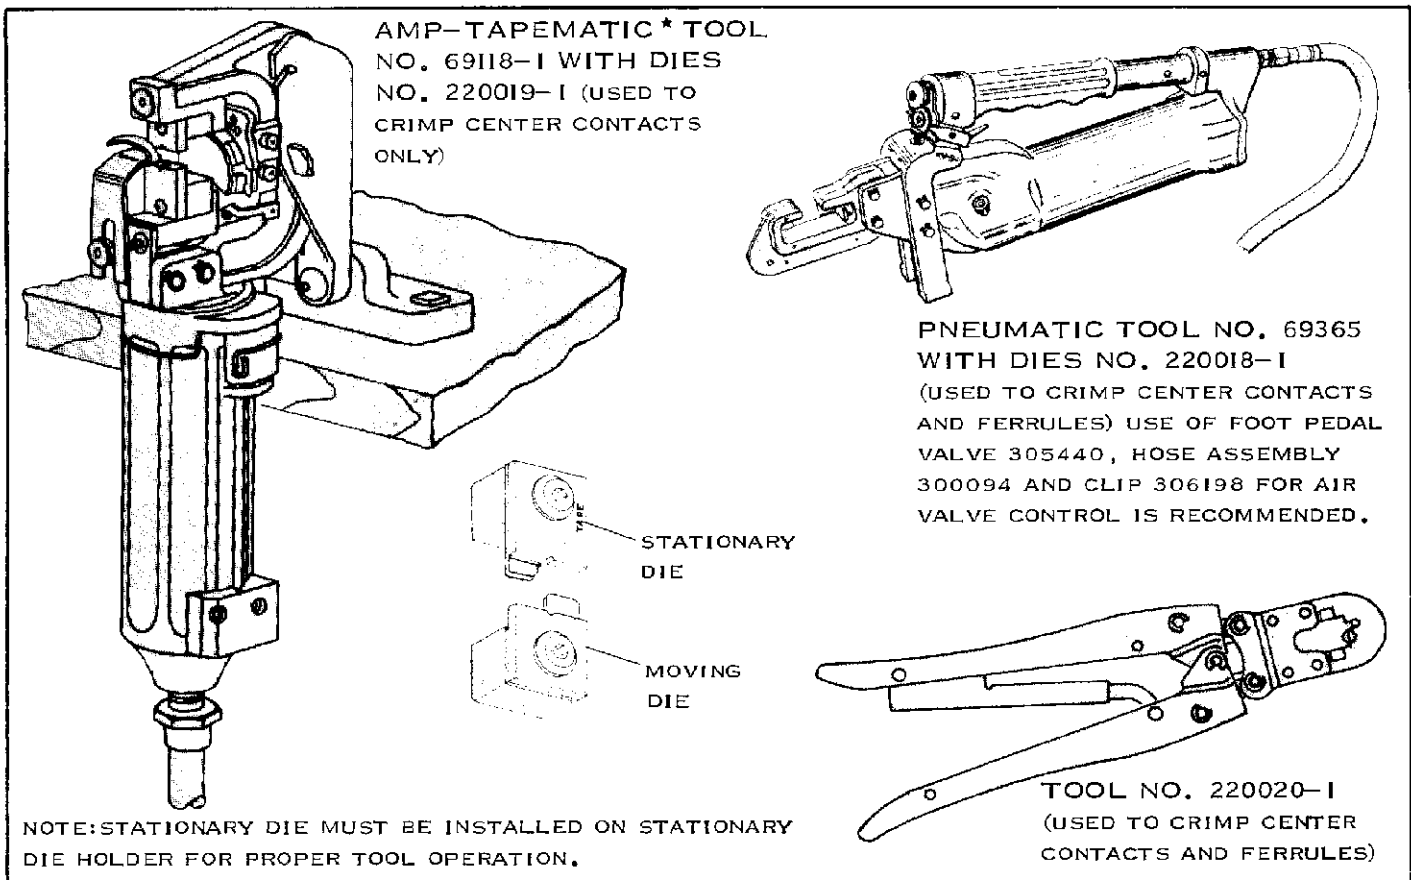

FIG. 1
Three types of Tools are recommended for crimping. See Figure 1. Tool No. 69365 crimps both center contact and ferrule with a single set of dies although each part is crimped separately. Hand Tool 220020-1 with integral Dies, also crimps both parts. Tool No. 69118-1 crimps only the center contact but does it automatically on reels
- (a) Place crimping dies in Tool and install tape containing contacts. NOTE: SEE FIGURE 1 FOR PROPER ORIENTATION OF DIES IN TOOL.